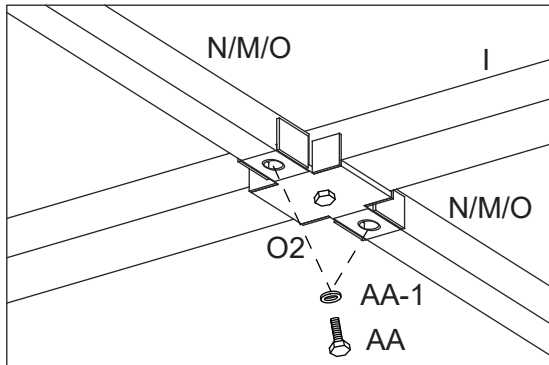

Figure 14-3
14.3: Attach the Horizontal Main Roof Supports (N, M and O) to the Connector (O2) using Bolts (AA) and Steel washer (AA-1). See Figure 14-3.